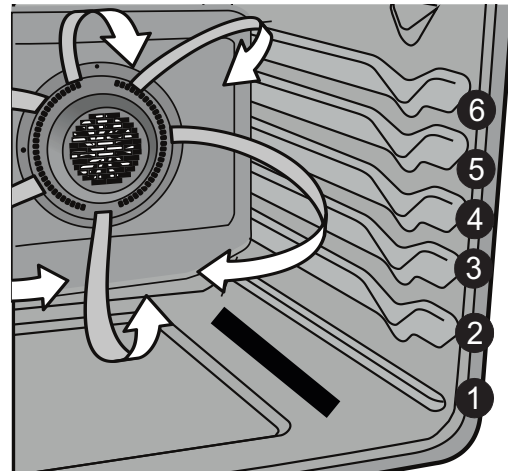

Figure 21: Rack positions
- When baking cakes using two oven racks place bakeware in positions 3 and 6 and place bakeware as shown in Figure 21.